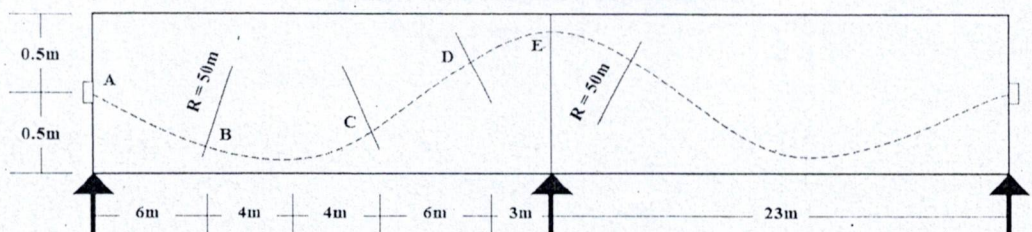

Figure 5
- (b) A prestressed-concrete beam is continuous over two spans shown in Figure 5. Its curved tendon is to be tensioned from both ends. Compute the percentage loss of prestress due to friction considering gradual reduction in different portions, from one end to the center of the beam. The coefficient of friction between the cable and the duct is taken as 0.4, and the average wobble effect, K , is 0.0026 per meter. 7.0